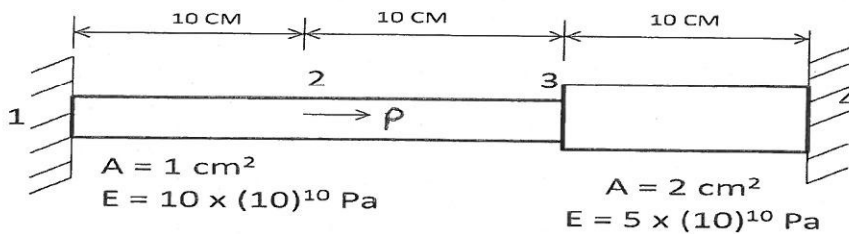

Fig.1
- b) For three bar assemblage shown in fig.1, determine i) the assembled stiffness matrix CO1 12